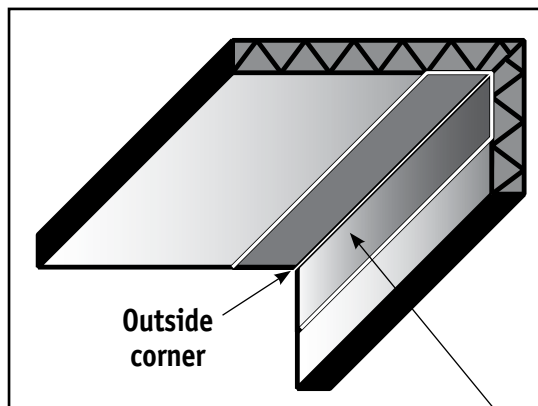
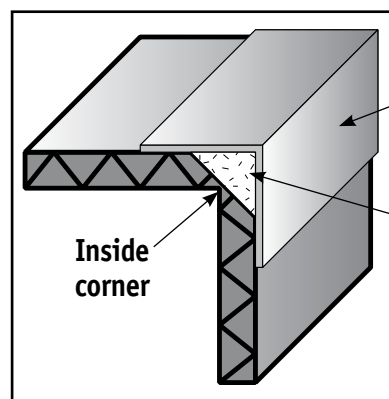

Figure 17
Figure 18
**Figure 17** shows an outside corner panel. **Figure 18** shows an inside corner panel. Again, both panels have been routed on the back and then folded as required.